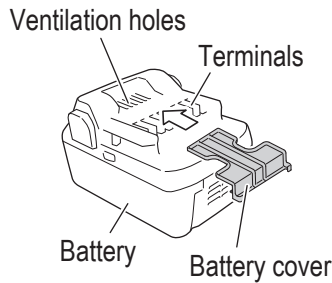

Fig. 5
- Either install the battery in the power tool or store by securely pressing into the battery cover until the ventilation holes are concealed to prevent short-circuits (See Fig. 5).